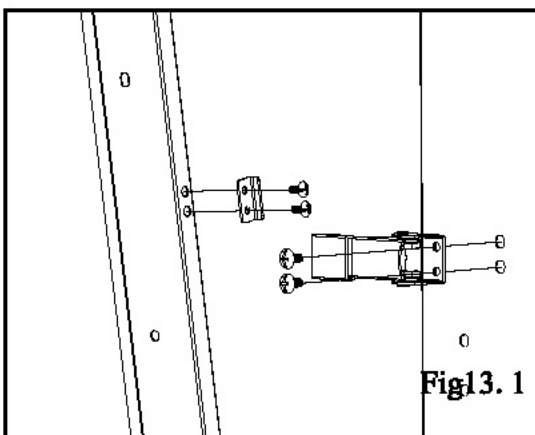

Fig13.1
1. Attach the Door Latch Plate to the Door with (2)10-24x1/2 bolts. Fig 13.1
2. Attach the Door Latch to the Cabinet with (2)10-24x1/2 bolts. Fig 13.1